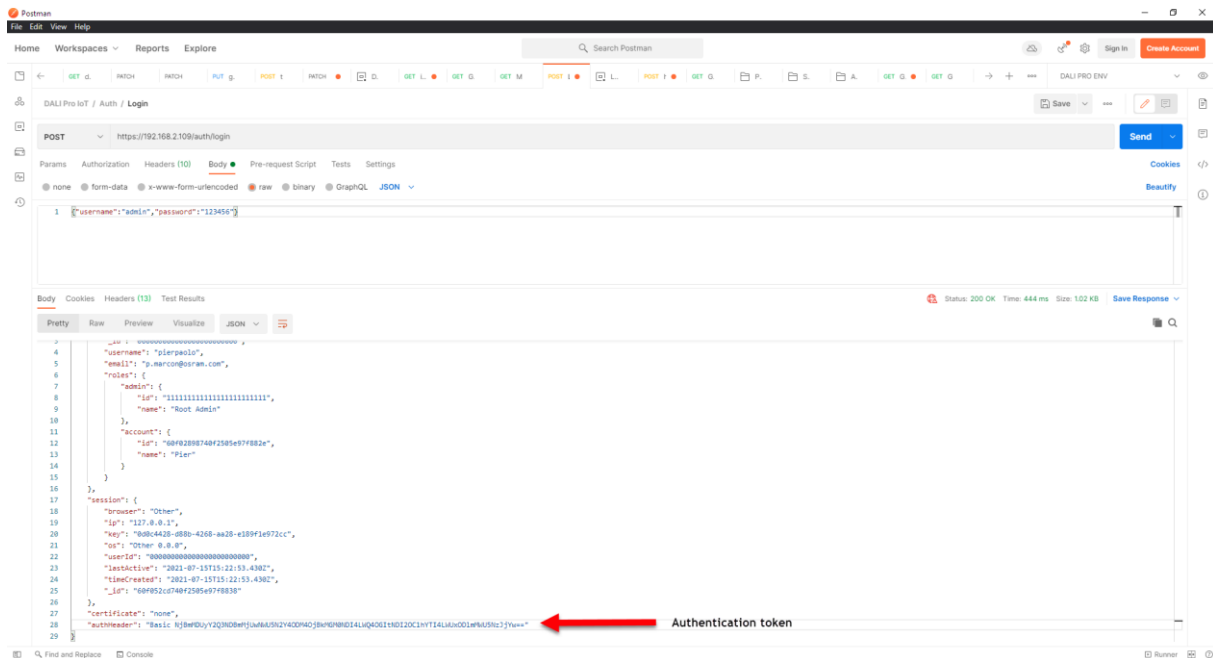

Figure 6
10. The answer from the DALI PRO 2 appears on the bottom of the *Postman* window. If credentials are correct the response status is *200 OK* and the response payload contains a field with the authentication token (see Figure 6).